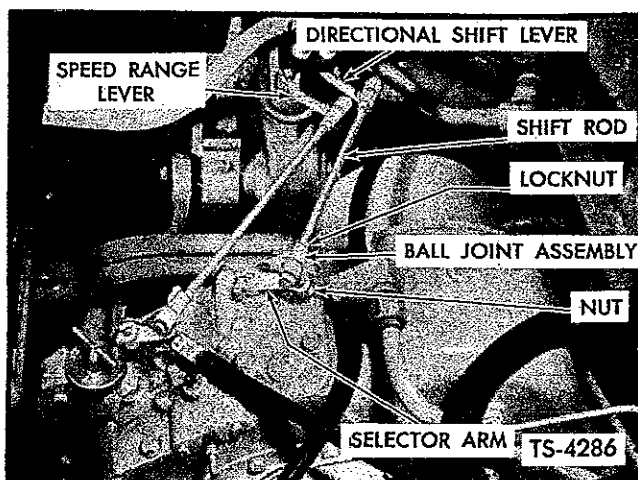

Fig. 35. Adjust Directional and Speed Range Shift Levers
4. Loosen locknut on shift rod, and remove nut securing ball joint assembly to selector arm. See Figure 35.